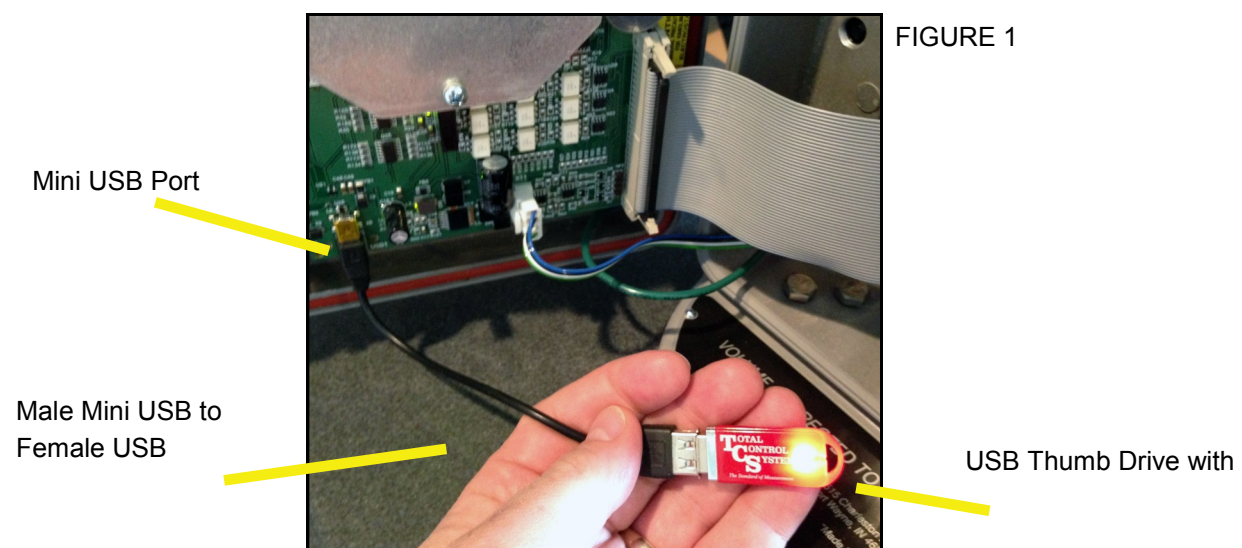

FIGURE 1
- 2) Open the TCS 3000 register. On the front cover of the register, there are 2 mini-USB connections.. Using a factory supplied USB cable, attach the thumb drive to the USB port closest to the inside of the register. This port is the highest on the circuit board of the two. See Figure 1.
- 3) Plug the USB cable into the USB port, and then insert the USB thumb drive into the mating cable (see Figure 1).